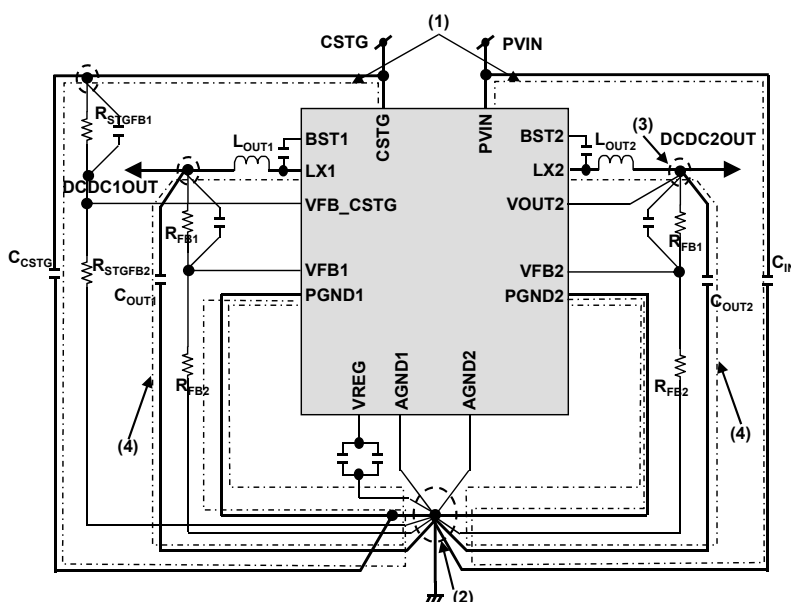

Figure A2-1 : Application circuit diagram
- (a) The Storage Capacitor  $C_{CSTG}$  of CH1 and Input capacitor  $C_{IN}$  of CH2 must be placed in such a way that the distance between CSTG and PGND1 of CH1 as well as PVIN and PGND2 of CH2 is minimum, in order to suppress the switching noise. Stray inductance and impedance should be reduced as indicated by loop (1) shown in the figure A2-1.
- (b) A single point ground connection (2) must be used to connect PGND and AGND to improve operation stability.
- (c) CH2 Output current line  $I_{OUT}$  and the output sense line VOUT2 must have small common impedance to reduce output load variations. Output sense line VOUT2 must be close to the output capacitor  $C_{OUT2}$  as indicated by (3) below.
- (d) Power Loss and output ripple voltage can be reduced by placing the inductor  $L_{OUT}$  and output capacitor  $C_{OUT}$  such that the stray inductance and the impedance of loop (4) is minimum. This is realized by :
- ii) Reducing distance for output capacitor  $C_{out}$  between single ground point connection (2) and output connection (3) as shown in Figure A2-1.